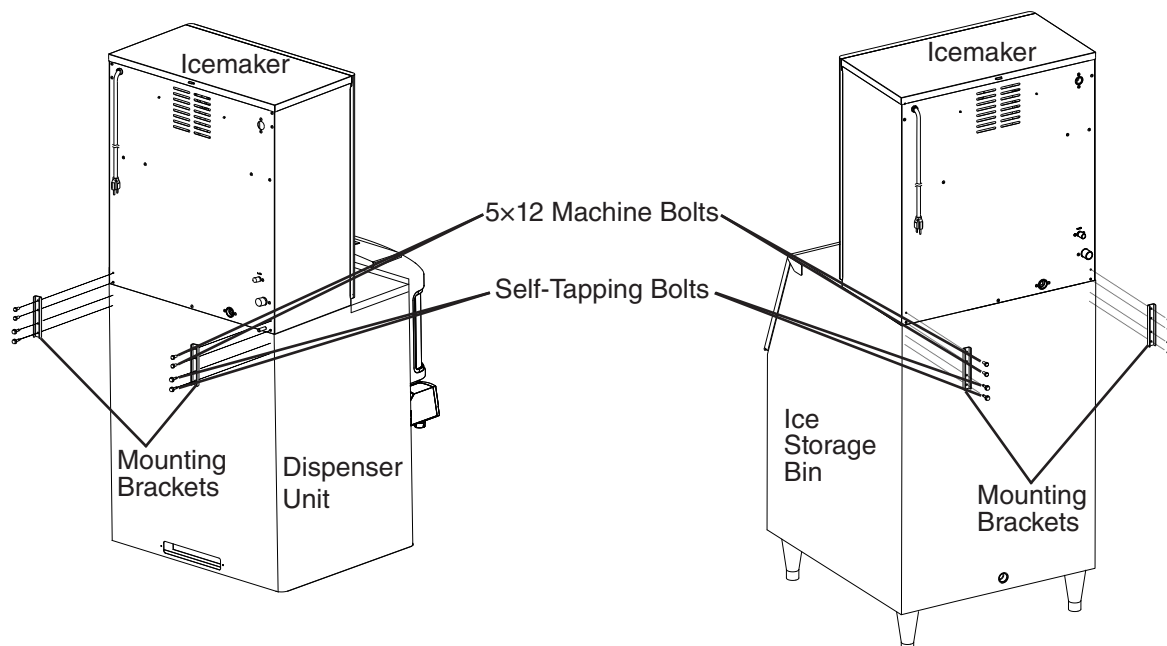

Fig. 5
- 6) Follow the dispenser unit/ice storage bin, adapter kit, or top kit instructions for securing the icemaker. If no instructions are available, secure the icemaker using the mounting brackets provided. Secure the mounting brackets to the icemaker with the 5×12 machine bolts provided. See Fig. 5. Secure the mounting brackets to the dispenser unit with the self-tapping bolts provided. **NOTICE! Use care to avoid damage to dispenser unit/ice storage bin components when attaching the mounting brackets.**